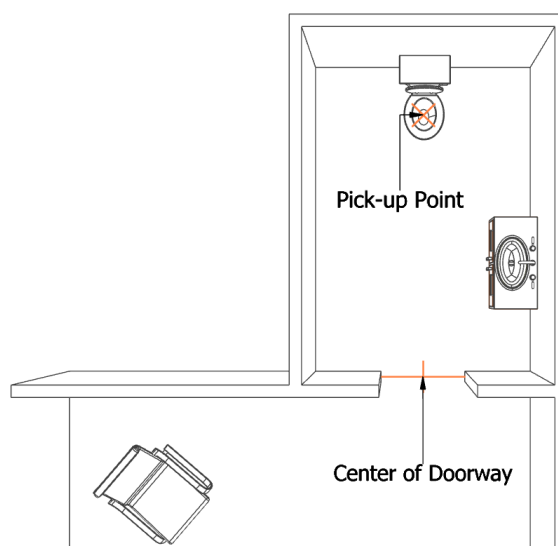

Figure 71: *Track Pick-up Points*
- For example, the pick-up point over a bed to the pick-up point over a chair or toilet, or the center line of a doorway (Figure 71).